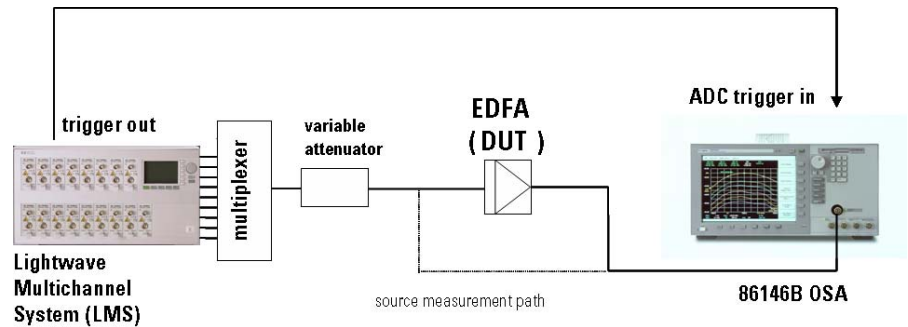

Figure 7 TDE setup for the patchcord configuration
As with ISS, there are two possible equipment configurations as in Figure 1 and Figure 2. The main difference is the trigger signal from the synchronously modulated source is required for the OSA. Figure 7 is the TDE setup for the patchcord configuration for source measurement.
If an additional mainframe is used, a BNC cable can connect its input trigger to the master mainframe. Then this mainframe’s trigger configuration should be left on default and all modules set to modulate on the backplane. A BNC cable is required from the slave mainframe Input Trigger to the Output Trigger of the Master mainframe. Finally, as indicated on Figure 7, a BNC cable is required from the Source Trigger Out to the OSA ADC Trigger.
- 1 Connect the amplifier as shown in Figure 7.